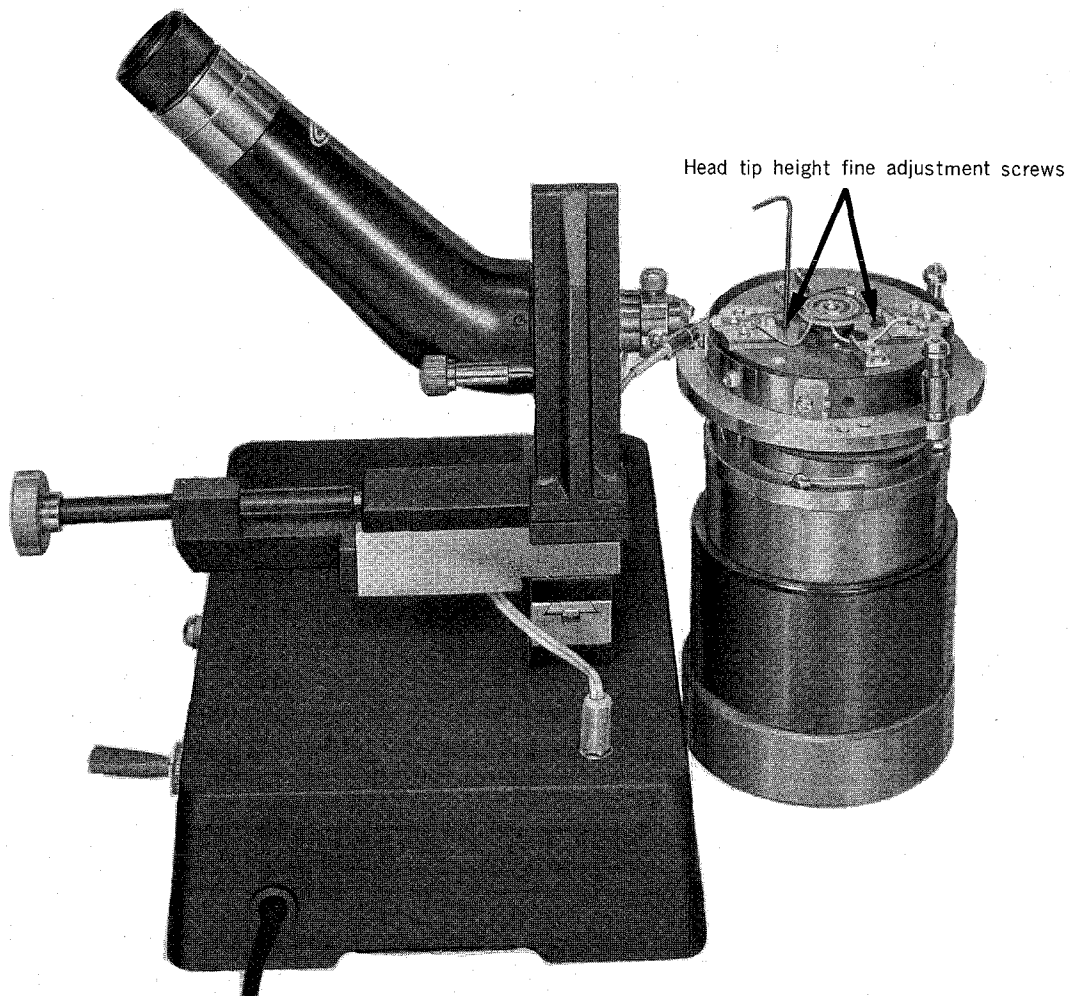

Fig. 9 Head Height Adjustment
- (d) Regulate each of the head tip height fine adjustment screws so that the head tip height is within a range of from $450\ \mu$ to $460\ \mu$ from the upper end of the lower drum. (Ref. Figs. 9 and 10).